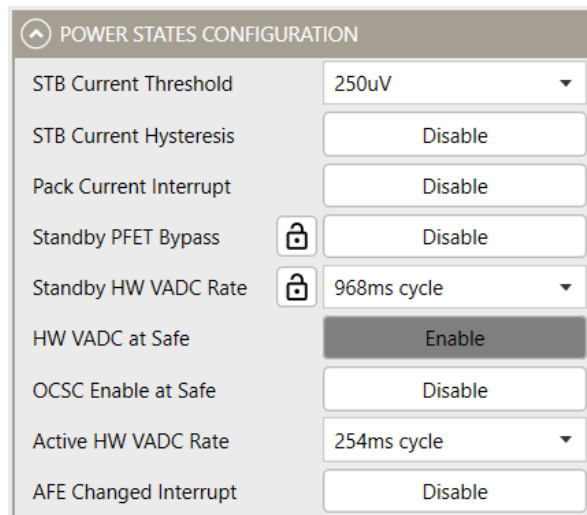

Figure 12: HW VADC at Safe Is Enabled
6. During configuration, the IC must be in safe mode, with all the MOSFETs turned off. All the voltage monitoring protections are disabled in safe mode by default. If a protection is required in safe mode, enable the “HW VADC at Safe” setting (see Figure 12).